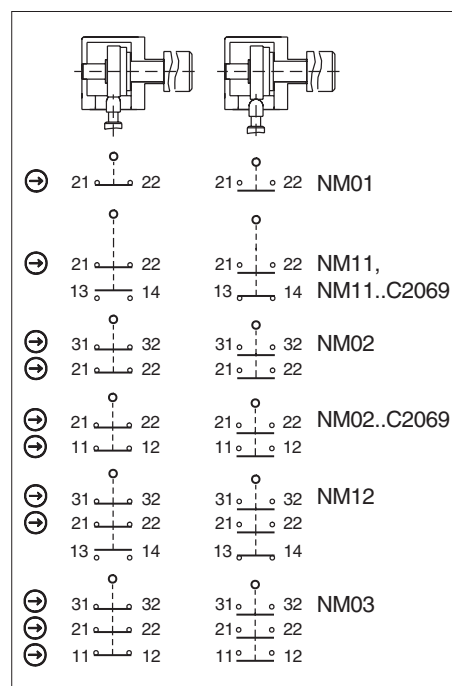

Fig. 3: Switching elements and switching functions
At least one contact  $\Rightarrow$  must be used. This signals the position of the guard (for terminal assignment, see Fig. 3).
3. Connect and tighten terminals with 0.5 Nm (for terminal assignment, see Fig. 3).